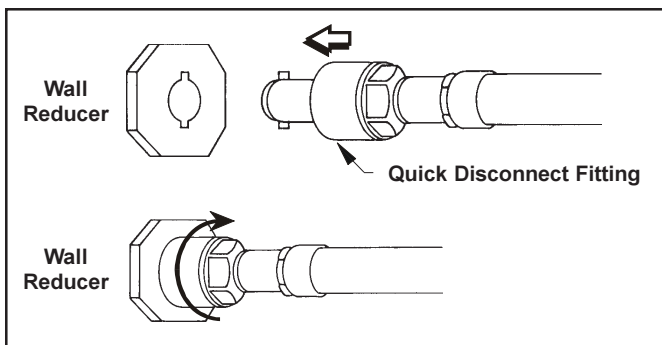

Figure 5. Quick Disconnect Fitting
- Insert quick disconnect fitting back into pool wall fitting (see Fig. 5).